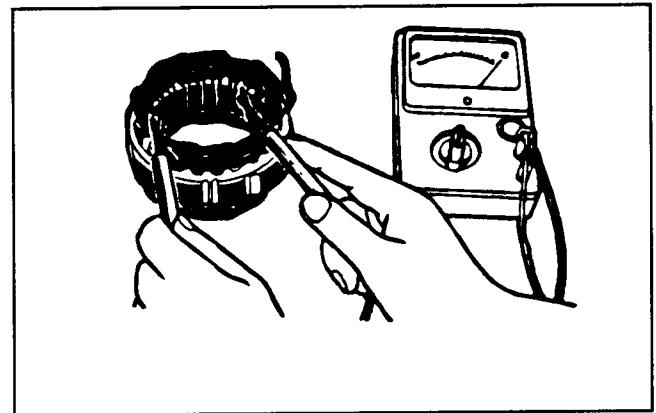

Figure 56
12. Check for continuity between lead wires of the stator coil (Fig. 56). Replace the stator coil if there is no continuity.